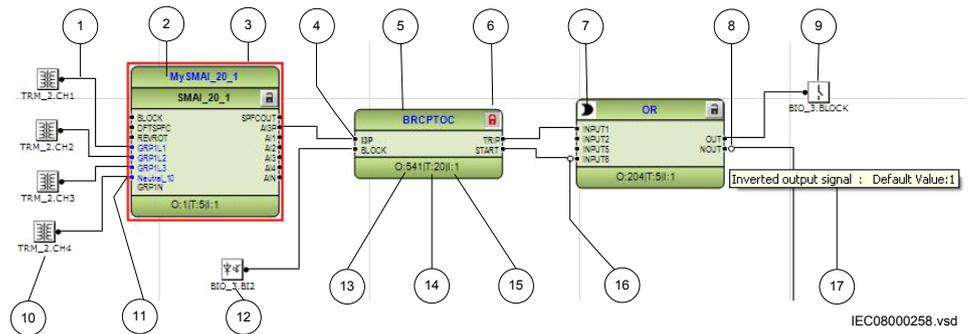

Figure 33: ACT: Function block overview
- Function blocks are the main elements of an application configuration. They are designed for a various number of functions and organized in type groups. The different function block types are shown in the Object Types View. Figure 33 presents an overview of the main parts that are relevant for function blocks.